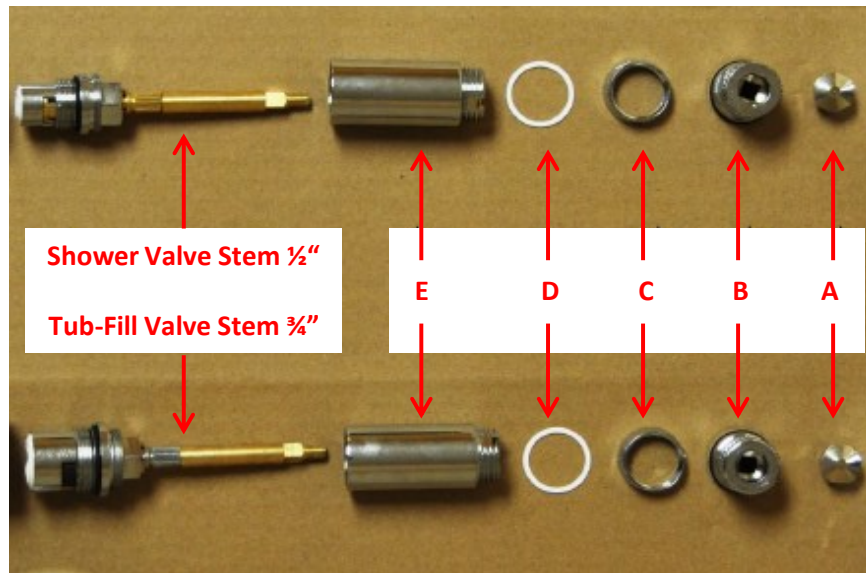

Figure 1
**Step 3:** Using a crescent wrench, remove part A (fig. 1). Hold the valve assembly firmly with your fingers.
**Step 4:** Remove part B (fig. 1). Simply pull straight out.
**Step 5:** Using a crescent wrench, remove part C (fig. 1).